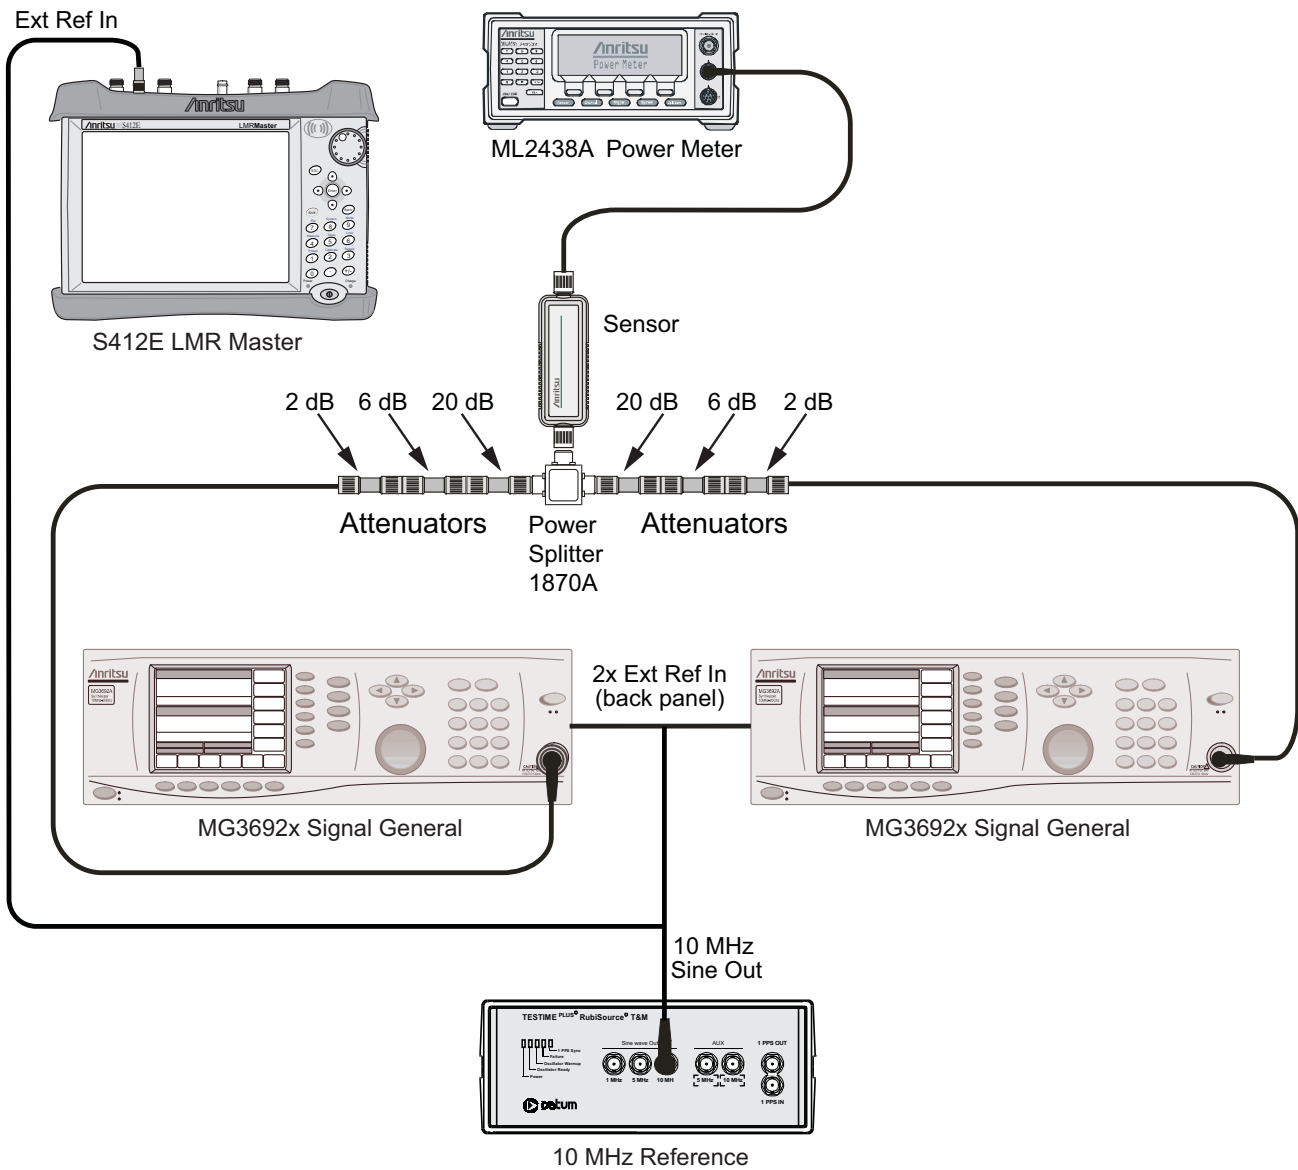

Figure 3-3. Third Order Intercept (TOI) Pre-test Setup
1. Connect the equipment as shown in Figure 3-3. The power splitter will be used as an RF combiner (the normal RF outputs will become inputs, and the normal input will become the RF output).
4. Connect the power sensor to the power splitter output. Refer to Figure 3-3 on page 3-18.